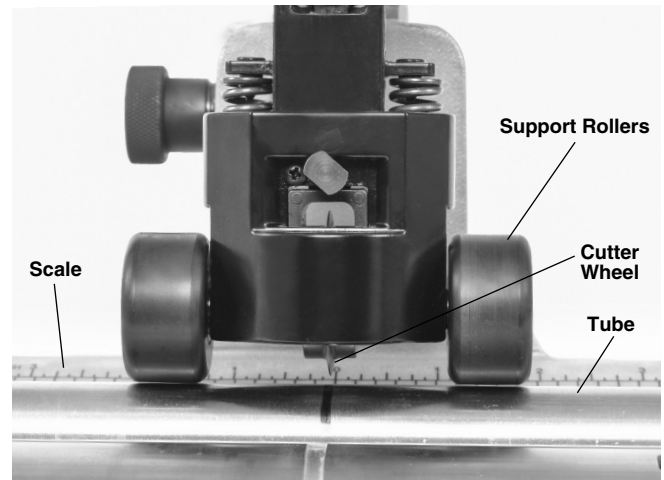

Figure 9 – Support Rollers Contacting Tubing
5. Advance the quick feed system until the support rollers contact the tube (*Figure 9*). Align the cutter wheel with the mark on the tubing. Tighten the feed-screw to bring the cutter wheel in contact with the tube. After cutter wheel contacts tube, advance the feedscrew an additional 1 to 1½ turns to grip the tube. Do not over advance the feedscrew, this can oval the pipe and increase burr formation.